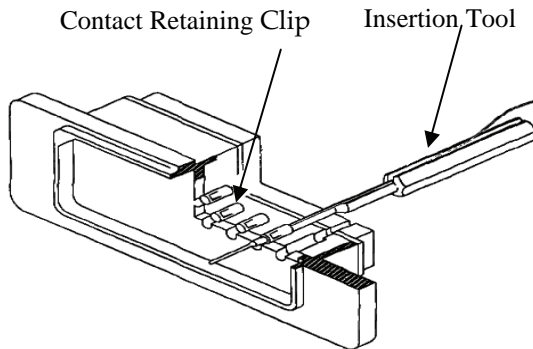

Figure 14. Contact Insertion
- g. With firm even pressure, press tool against contact shoulder and seat contact in cavity (Figure 14). A slight click may be heard as retention tines snap into place behind contact shoulder.